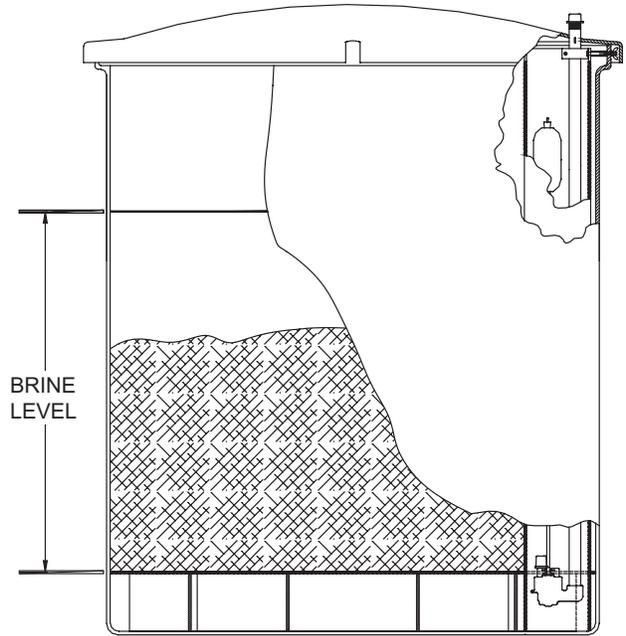

Figure 43. Wet storage.
- Wet Storage - When the salt level has to remain lower than the water level after refill to prevent the displacement of the volume of water required for salt dosages of 12 lb/ft³ or greater. (see Figure 43).